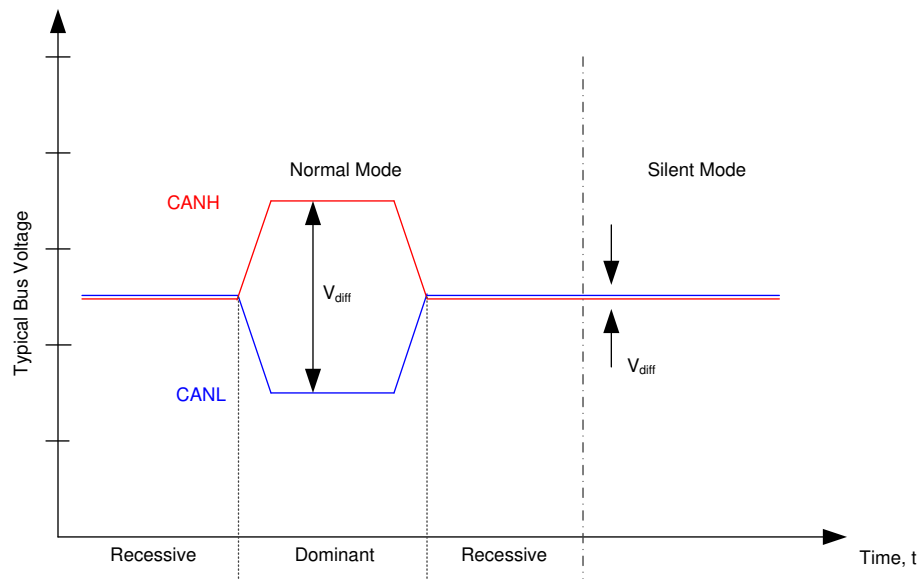

Figure 7-1. Bus States
The CAN bus has two logical states during operation: recessive and dominant. See Figure 7-1.
(1) X = irrelevant
(2) For bus state see Figure 7-1